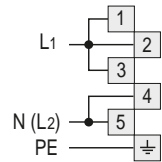

Fig. 16 Connection diagram
- 4 Check the bridging links **F** are inserted into terminal block **A** as shown (Figs. 16 - 17).
- 5 Connect the phase, neutral and earth wires to terminal board **A** according to the diagrams in figs. 16 - 17.